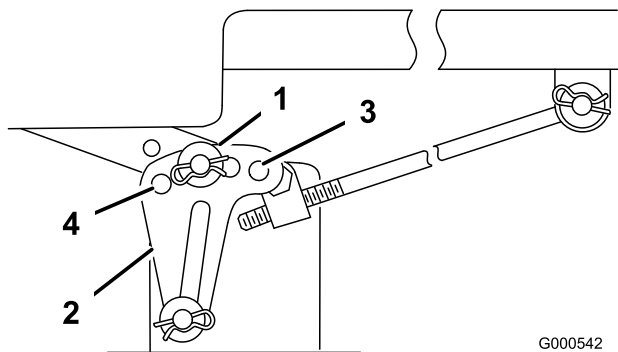

Figure 54
- Remove the hairpin cotter and washer from the leveling bracket (Figure 54).
- To level the blade(s), reposition the leveling bracket(s) in a different hole and install the washer and hairpin cotter. (Figure 54). A front hole lowers the blade height and a rear hole raises its height. Adjust both sides as required.